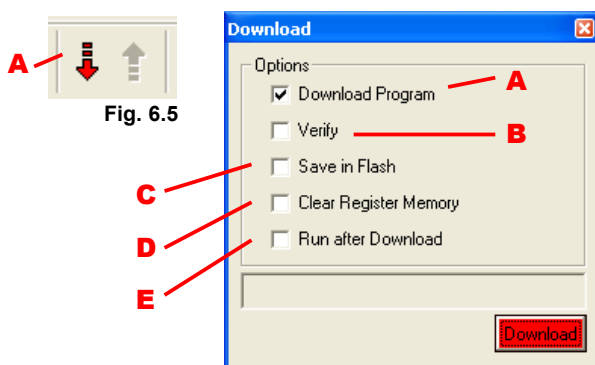

Fig. 6.6
When the Program is complete and if the compiling ends correctly it is possible to download it in the RAM memory of Controller. To do it, open the “Download” window (Fig.6.6). clicking on the “Download” button (Fig.6.5-A).
- “Download Program” (Fig.6.6-A) – Starts to download the Program in the RAM memory of Controller.
- “Verify” (Fig.6.6-B) – Compares the Program contained in the RAM memory with the compiled Program.
- “Save in Flash” (Fig.6.6-C) – Transfers the Program loaded in the RAM memory to the Internal Flash Memory of the Controller.
- “Clear Register Memory” (Fig.6.6-D) – Resets the value of the Controller's General Purpose Internal Registers.
- “Run After Download” (Fig.6.6-E) – At the end of the download, sets the Controller in “Run” modality (execution of the Program).